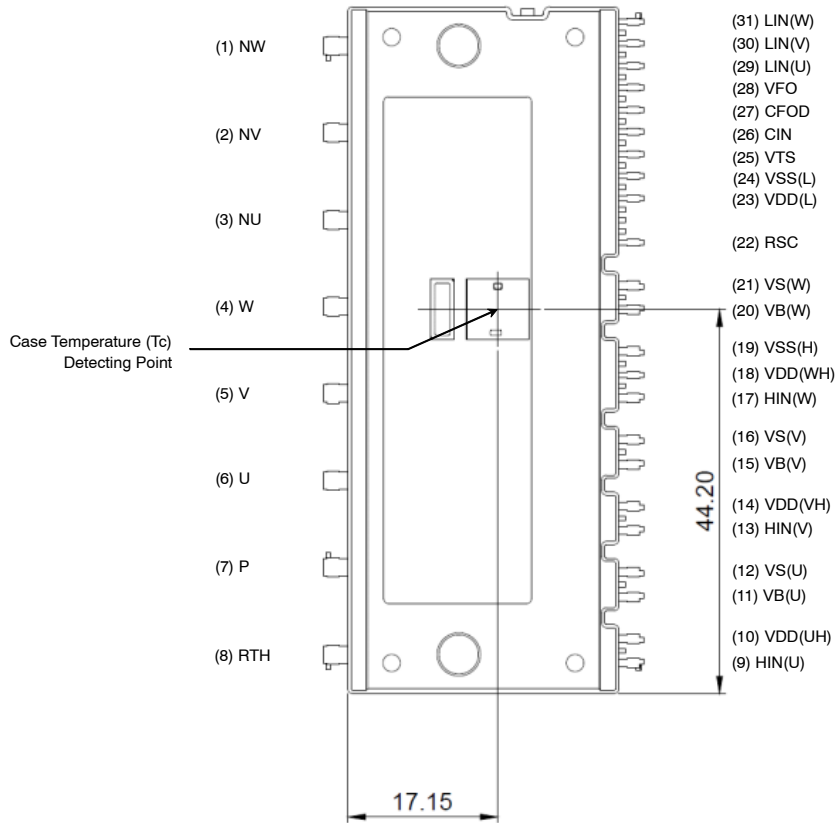

Figure 10. Case Temperature (Tc) Detecting Point
4. For the measurement point of case temperature (T_c), please refer Figure 10.